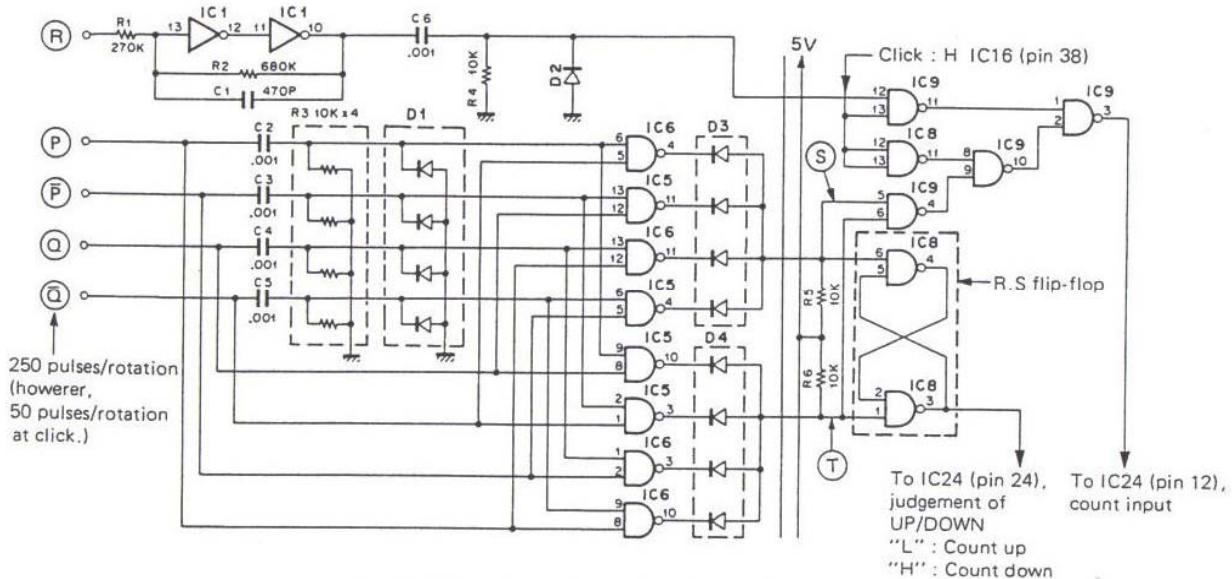

Fig. 13 Output waveform of main encoder
Fig. 12 shows the configuration of the encoder section. The control pulse of the main dial “click” detent mechanism is as shown in **Fig.13**. When operating the [CH.Q], [CS], [VFO/M], [M▶V], [SELECT], etc., keys, the CPU performs its associated process, judges whether or not the dial is detented, and inputs the status signal of the sensor (pin PS) to IC16 PC0 (pin 14). For example, when the dial retent is activated, as when the dial is already detented when pin PS is “H”, the process ends. However, when pin PS is “L”, a 100msec pulse is emitted from PA3 IC16 pin 17, thereupon the plunger drive pulse (PN) is emitted through the switching operation of Q12 : DTC143T(S), Q13 : 2SC2459(Y) or Q14 : 2SA1307(Y).